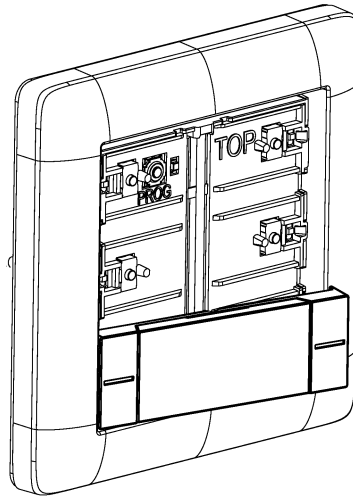

Figure 5: Slide the side of the rocker into place
- Slide the side of the rocker into place (see figure 5).